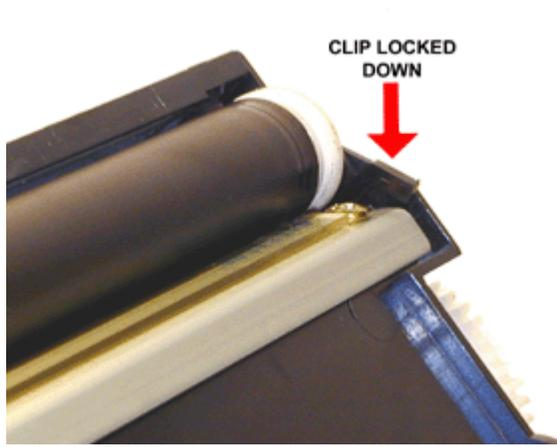

FIGURE 31
26. Rotate the locking clip down. Make sure the tabs locks in place. See Figure 31